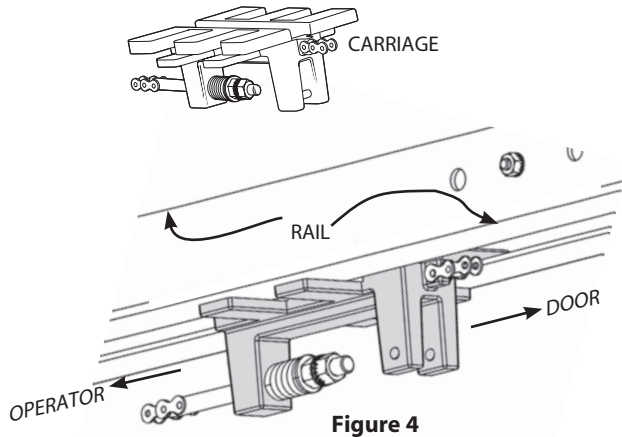

Figure 4
3) Insert the carriage into the rails as shown in **Fig. 4**.